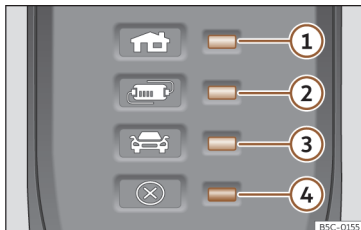

Fig. 204 On the charging cable for power sockets: Indicator lamps on the protection device.
>>> Fig. 204:
The electronic protection device >>> Fig. 204 ensures that the charging connector does not receive current until it is plugged in to the vehicle's charging connector.
One or more indicator lamps >>> Fig. 204 1, 2 or 3 light up green. >>>
Display»» Fig. 204	Meaning
If the red warning light ④ flashes or turns on without one of the indicator lamps »» Fig. 204 ①, ② or ③ also turning on continuously on the status indicator, there is a fault.